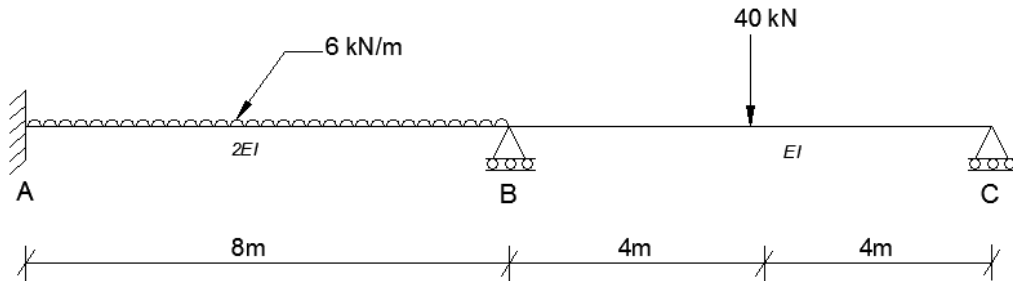

Figure 5.
10. Calculate the support reactions in the continuous beam ABC due to loading as shown 14M in **figure 5** by flexibility method. Take $E= 200\text{GPa}$, $I = 200 \times 10^6 \text{ mm}^4$. Draw BMD.